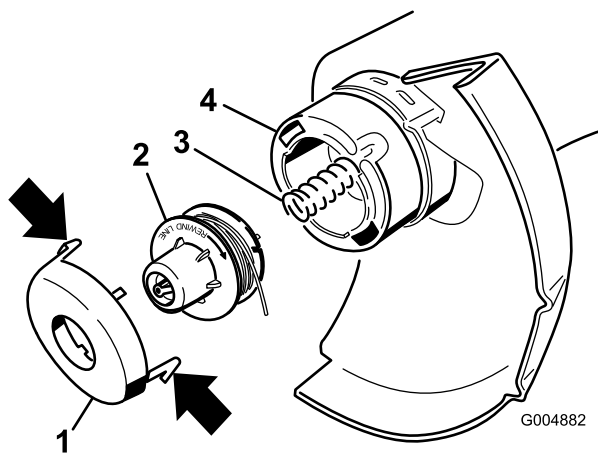

Figure 7
1. Press in the tabs on each side of the cap (Figure 7).